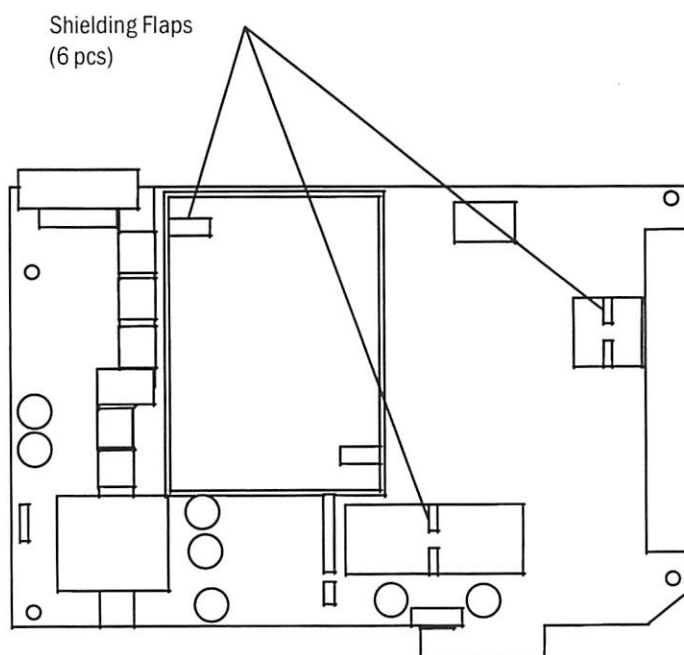

Figure 3 LM1-STP board EMC covers
- Check that all shielding flaps (6 pcs) are properly closed. (Figure 3)